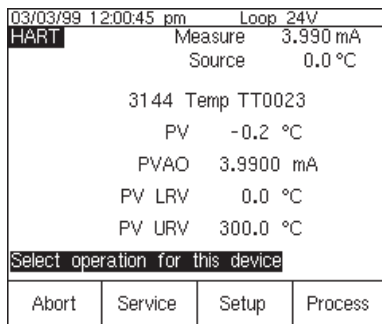

Figure 11
1. Power on the Fluke 744 Calibrator. Press the red **MEAS** key followed by the **Loop Power** softkey. Press **ENTER** to bypass the warning screens and the 744 will display the basic HART information for the 3144 (Figure 11).